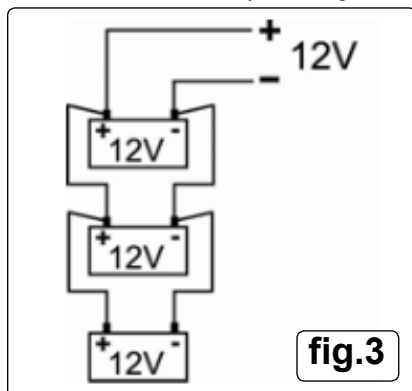

fig.3
4.4.1. A number of batteries may be charged at the same time. To do so we recommend "parallel connection" as shown in fig.3.
4.5.2. The input protection fuse is situated to the right hand side of the control panel, see fig.3. If this fuse blows, replace only with a fuse of the same value.